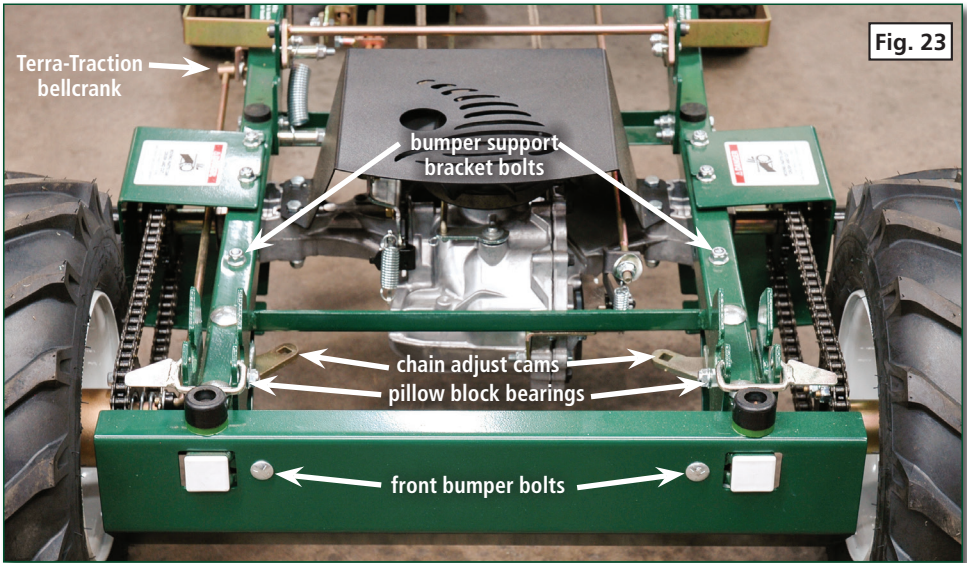

Fig. 23
2. Remove the bin for best access. (Figure 23)
3. Remove the two 5/16-18 bumper support bracket hex bolts and the two 5/16-18 carriage bolts holding the front bumper to the front of the chassis. Set these aside. (Figure 23)
6. Locate the Terra-Traction bellcrank (Figure 23). Remove the R-clip and washer holding the threaded swivel in the bellcrank. Slip the threaded swivel out of the bellcrank and allow to sit loose. (Figure 25)
7. Reach into the chassis of the SuperHauler and locate the two chain adjust cams. (Figure 23)